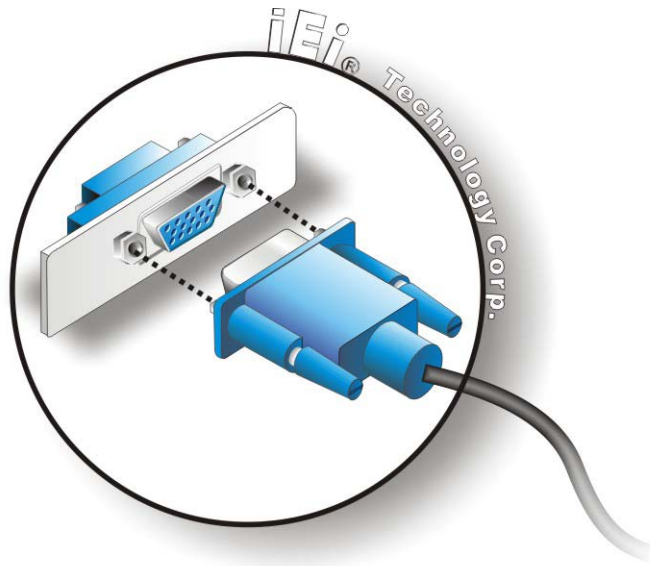

Figure 3-14: VGA Connector
Step 3: Insert the VGA connector. Once the connectors are properly aligned with the insert the male connector from the VGA screen into the female connector on the ECN-380-QM87. See **Figure 3-14**.